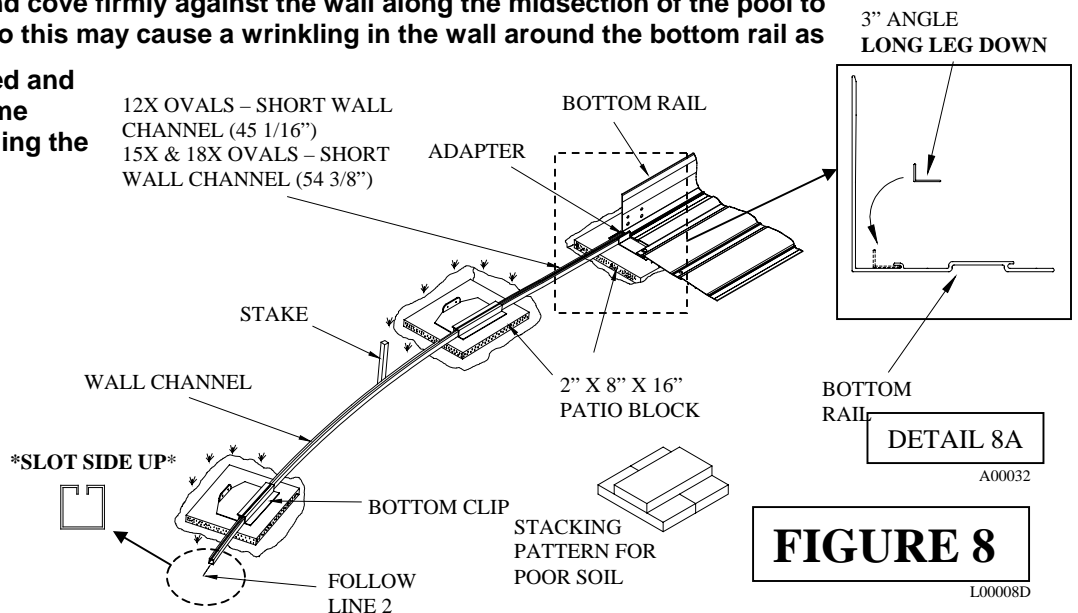

FIGURE 8
1. **Round Ends:** 3 patio blocks must be placed under each bottom clip as shown in figure 8.
Step 9: See Figure 1. Mark line "2" as shown in the table on page 3. Insert the short wall channel into the adapter. See Figure 8. Create a half circle on line "2" by sliding the longer wall channels into the bottom clips. See Figure 8. Place a 2" thick patio block under each bottom clip. If the bottom wall channel is on soft ground, place additional blocks in a pyramidal shape under the bottom clips for support. Also place additional blocks under the wall channel where needed. Dig 2" down for each block. *The top of each block must be at grade level.* Place a stake adjacent to each wall channel to keep the half circle in position during installation. Repeat for other end. Place the 3" angles into the slot in the bottom rail as shown in Figure 8. Insert long end down.